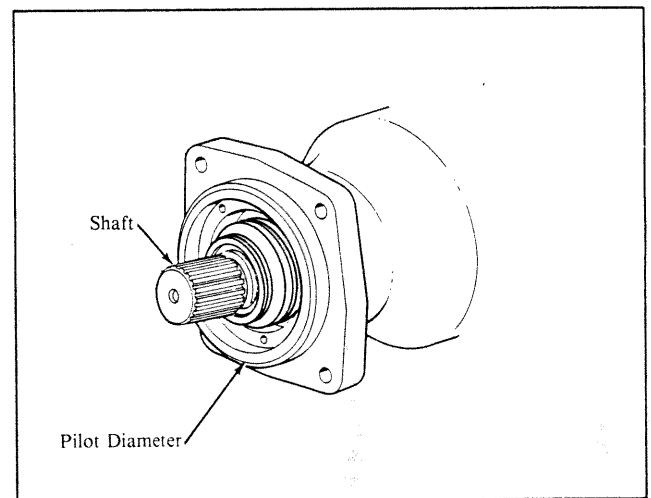

Figure 4. Drive Connections
2. Direct Drives - Care must be exercised when mounting the motor so that the pilot diameter fits properly into the machined accessory pad of the load. See Figure 4. The pilot should not be forced into the accessory pad under any condition. Care should be exercised in tightening all flange mounting screws to prevent misalignment of the shaft.